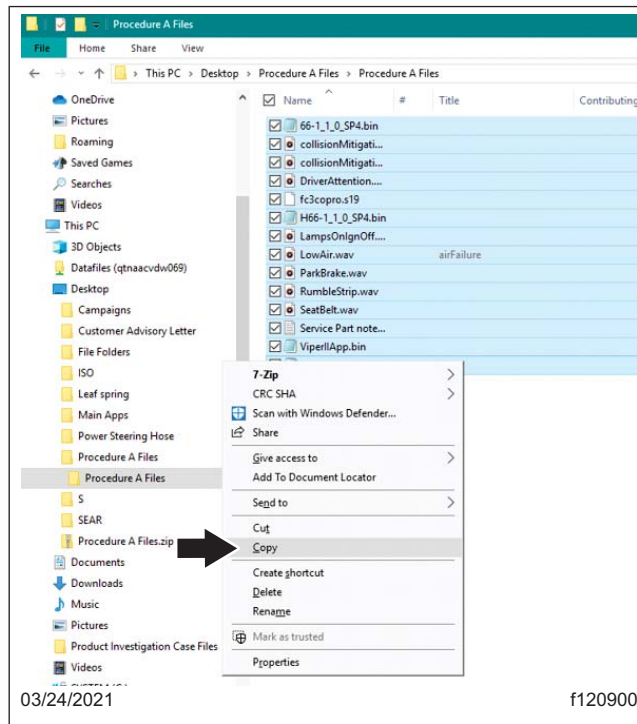

Fig. 10, Selecting Copy
12. Right click and copy all the files in the 'Procedure A Files' folder. See Fig. 10.